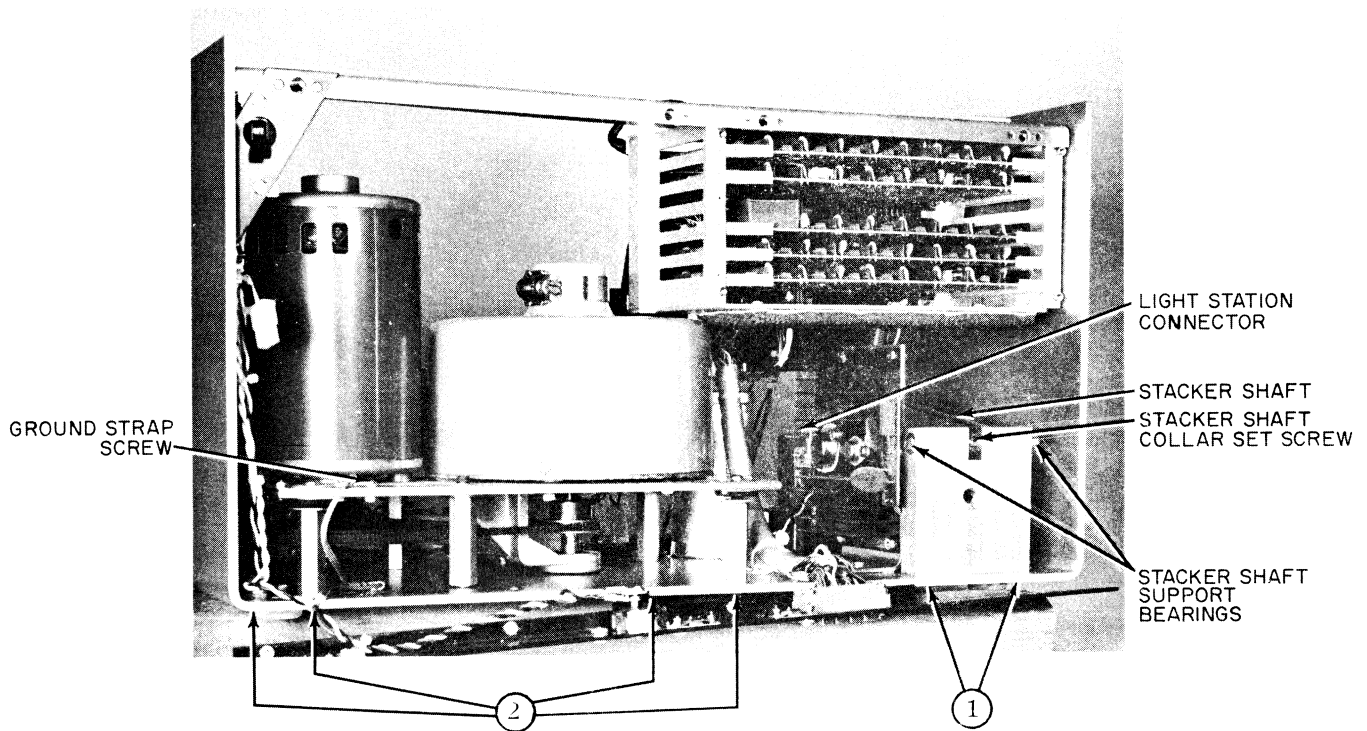

Figure 9-10. Rear View, Cover and Rear Connector Panel Removed
- f. Disconnect light station connector, figure 9-10.
6. Connect light station connector, figure 9-10.
- c. Remove cable wrap and disconnect light station connector, figure 9-10. Light station assembly is now free.
- c. Using a Phillips screwdriver, remove two screws 1 from underneath main-frame holding stacker shaft support casting, figure 9-10.
- c. Remove four Phillips head mounting screws 2 holding vacuum pump motor assembly, figure 9-10.